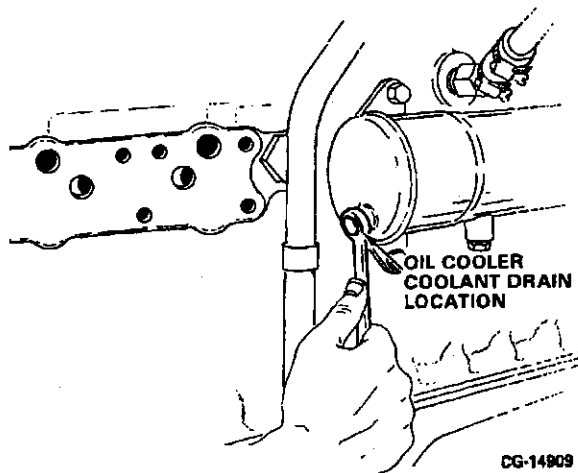

Figure 9.24. Drain Coolant from the Oil Cooler
- b. Drain the coolant from the oil cooler. Refer to Figure 9.24.